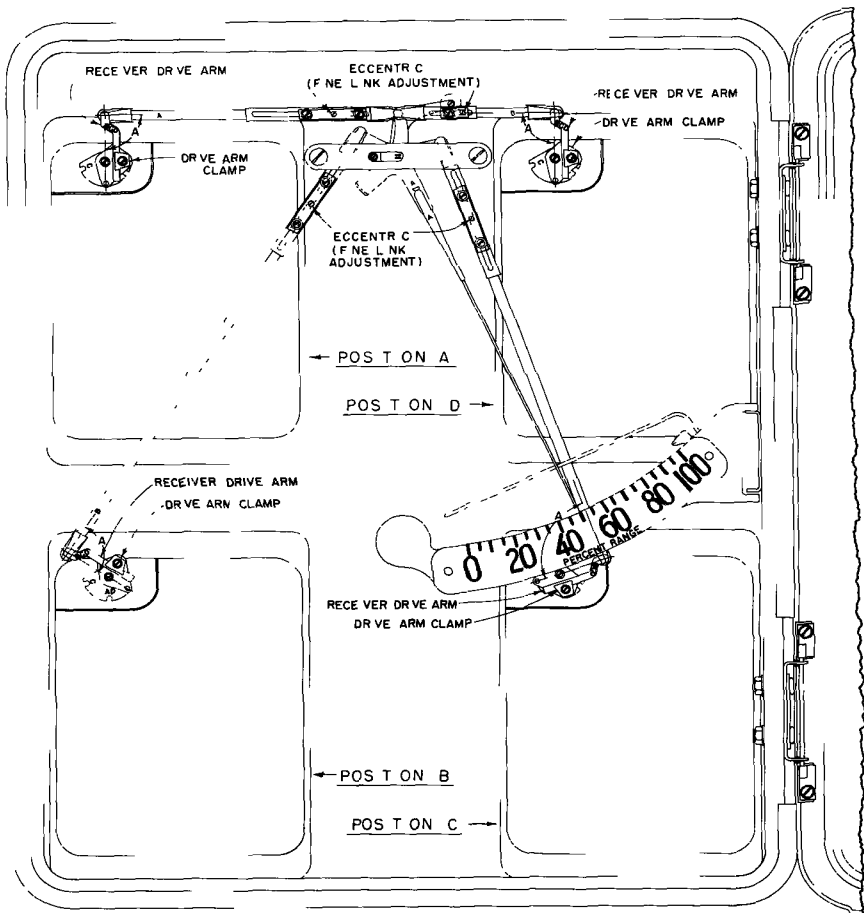
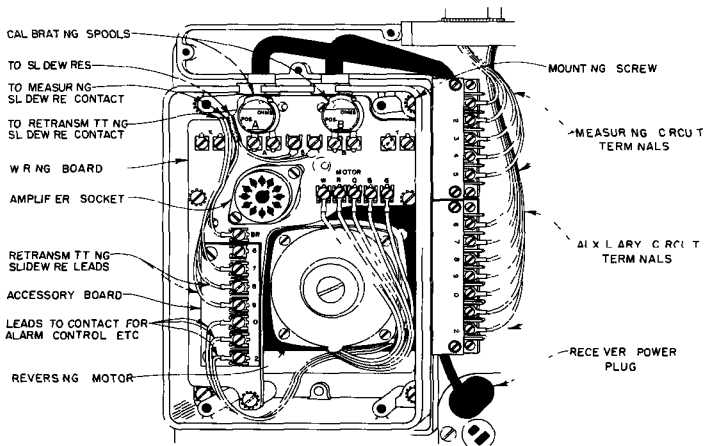

FIGURE 1 - Type WM55 Recorder with Four Electric Receivers
FIGURE 3 - Rear View of Electric Receiver Mounted in WM55 Recorder (Amplifier Removed)
An Electric Receiver can be mounted in the Type WM55 Recorder in any of the four component positions A, B, C, or D as shown in Figure 1. In a Type WM53 Indicator, Indicating Receivers can be mounted in positions A and B. Integrators or retransmitting auxiliaries in C and D. Each unit is secured to the rear of the Recorder by four captive mounting screws, which are accessible when the amplifier cover is removed. These screws are shown in Figure 3.
Connections to the Receivers are made in the central wiring channel on the rear of the Recorder (Figure 3).
Each circuit class has a separate wiring board assembly. General component locations and connections are shown in Figure 3
2 If pen does not read zero chart, make a fine adjustment of adjustable link between Receiver drive arm and pen yoke (Figure 1), to position the pen exactly at zero. (Linkage adjustments are described under "Adjustment and Calibration" in Instruction Section E12.3.)
- a Disconnect adjustable link from Receiver drive arm (Figure 1)
- b On back of Recorder, remove (1) the central wiring channel cover and (2) the wiring cover plate that is directly above the Receiver
- c Pull Receiver power plug (Figure 3)
- f Remove amplifier cover from rear of Receiver and loosen the four retained Receiver mounting screws (Figure 3)
- a Pull Receiver power plug (Figure 3)
- d Remove four (or five) motor leads from wiring board (Figure 3)